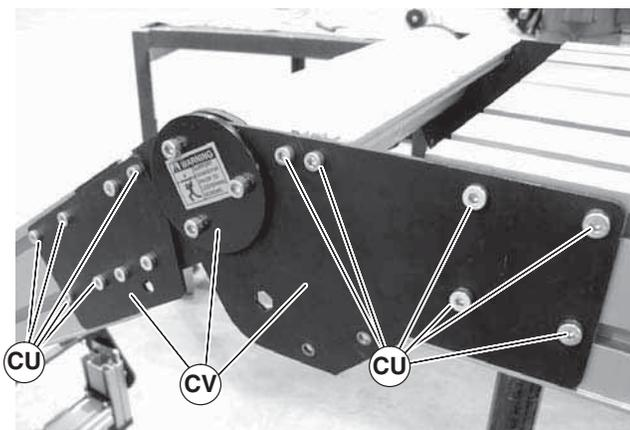

Figure 73
3. On one side of knuckle, remove screws (Figure 73, item CU) and knuckle plate assembly (CV).